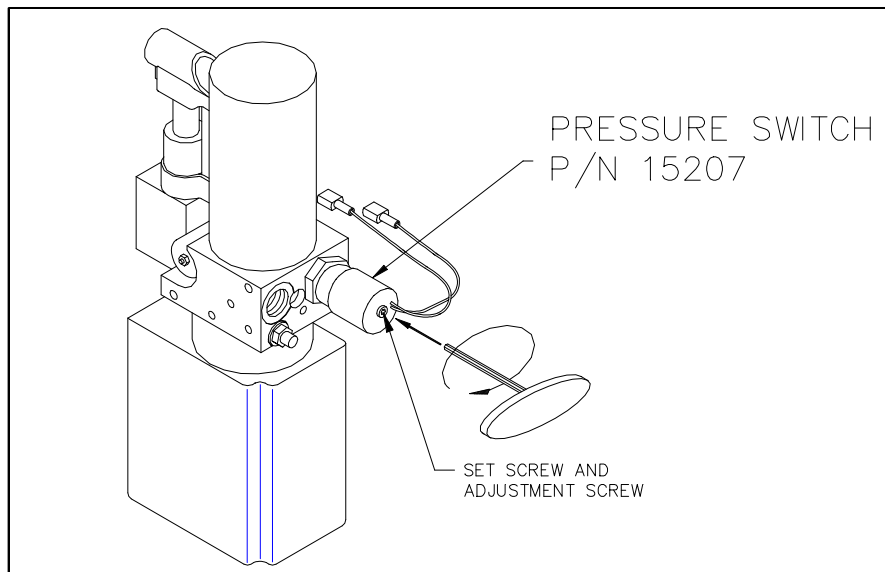

FIGURE 2-22: HYDRAULIC PUMP WITH PRESSURE SWITCH
- c. Refer to **Figure 2-22**. Remove the 1/4-20 x 1.00" set screw (with hex recess) from end of pressure switch to gain access to adjustment screw. Save screw for reinstallation.